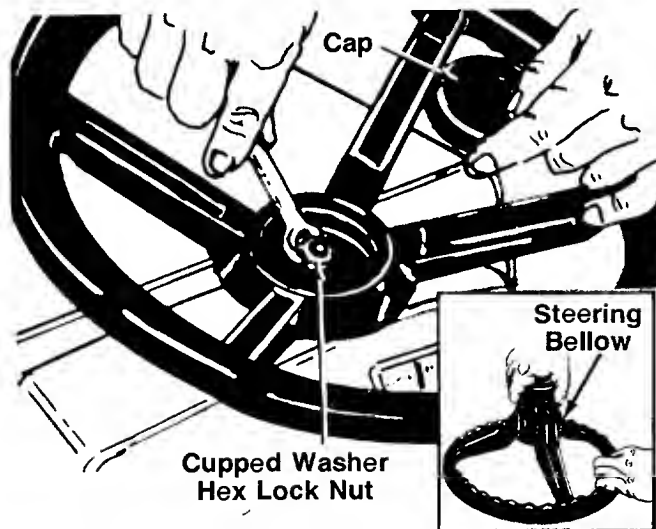

FIGURE 6.
Attach one end of the plastic steering bellow to the steering wheel as shown in figure 6, inset.
5. Place the washer with the cupped side down over the steering column. Secure with 5/16" hex lock nut. See figure 6.